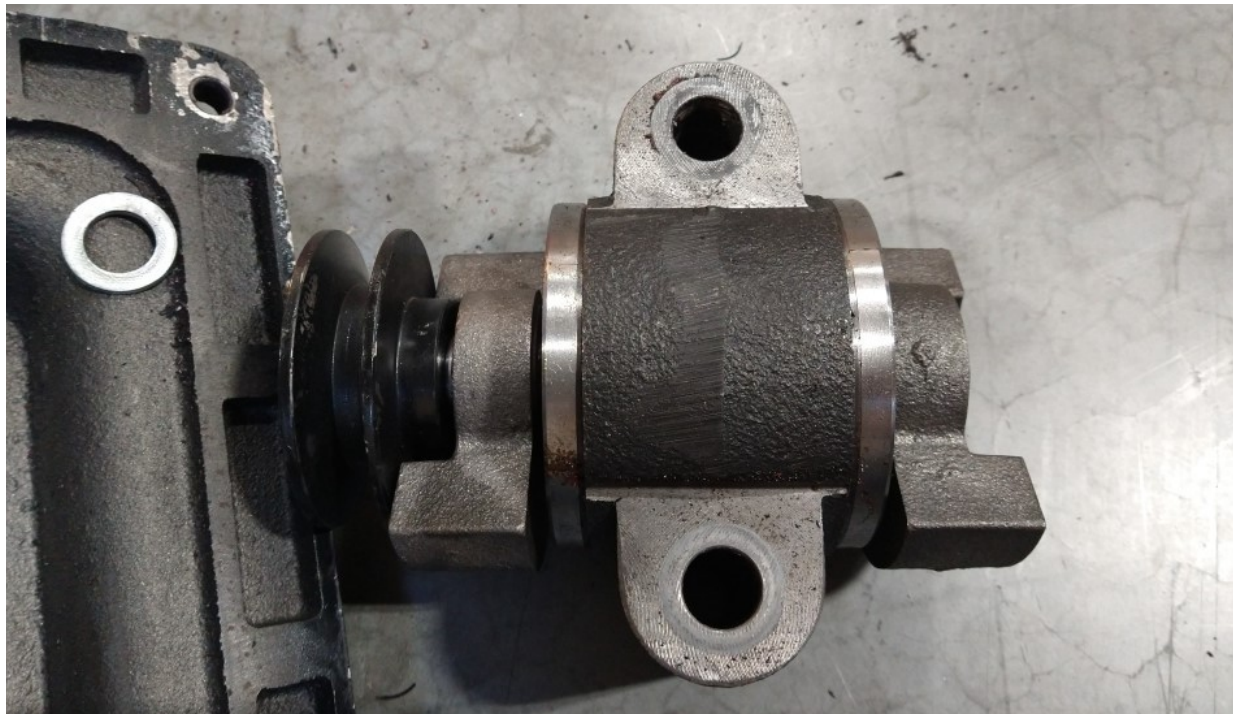

Fig. 10: Vibrating assembly removed.
10. Remove the old vibrating assembly from the exciter seat (Fig. 10).